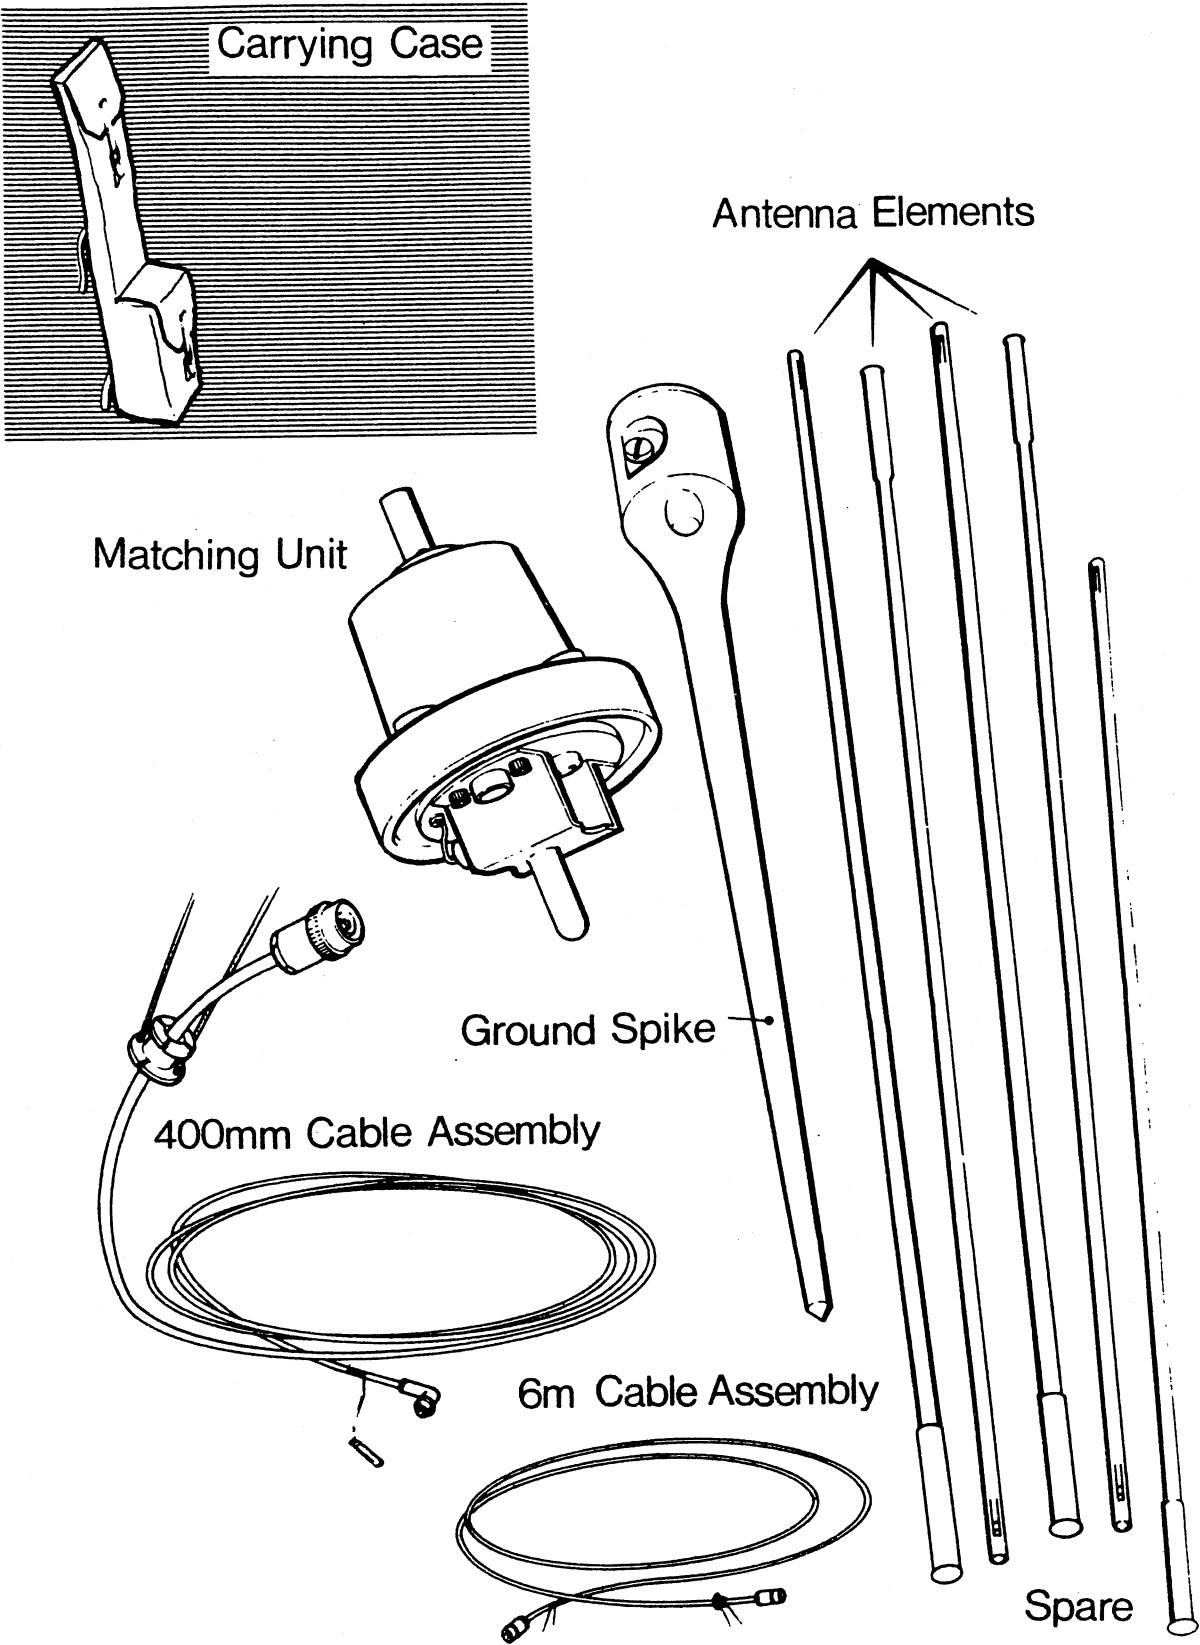

Fig 86.—VHF Ground Spike Antenna—Components
(1) Height fully erected	2.4m
(2) Complete weight	1.86kg
b. *Components (Fig 86)*